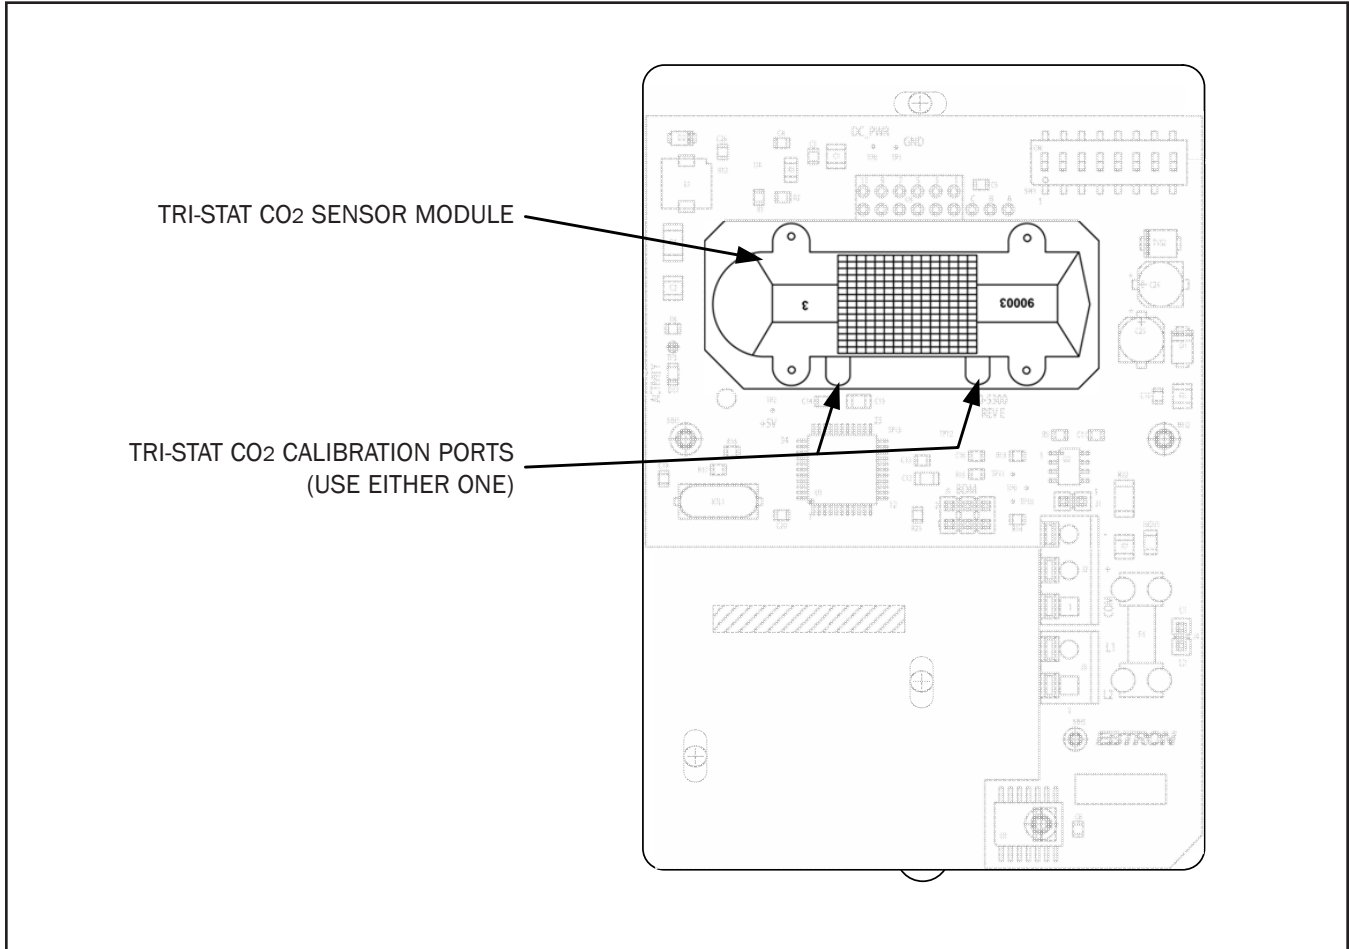

Figure 9. Tri-Stat CO2 Calibration Ports
3. Remove the port covers from the Tri-Stat CO₂ calibration ports (Figure 9) and attach suitable tubing from the reference gas regulator to either port.